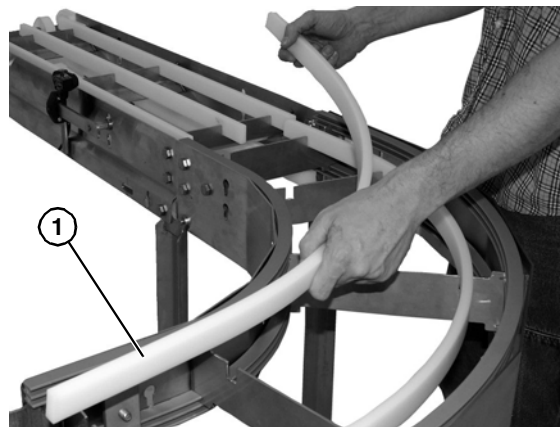

Figure 49
3. Remove curved wear strips from frame notches (**Figure 49, item 1**) when worn.